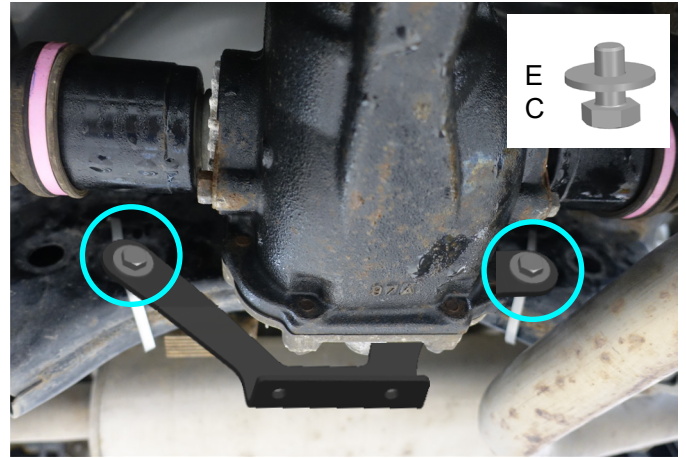

Fig. 2
2. Secure the rear bracket (item 3) using M10x25 bolts and M10 washers (item C,E) as shown in Fig.2.